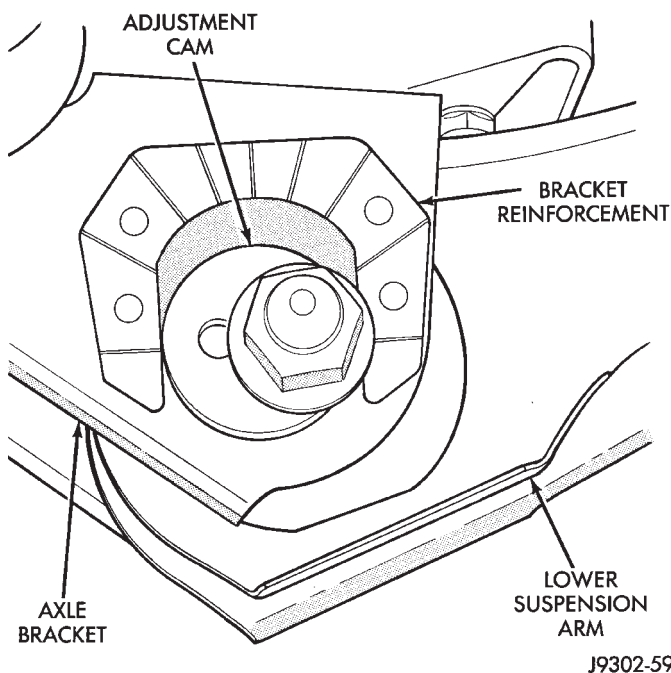

Fig. 2 Cam Bolt Service Package
- (1) Raise and support the vehicle.
- (2) If equipped with ABS brakes remove sensor wire from the inboard side of the arm.
- (3) If the vehicle is equipped with a cam bolt service package paint or scribe alignment marks on the cam adjusters and suspension arm for installation reference (Fig. 2).